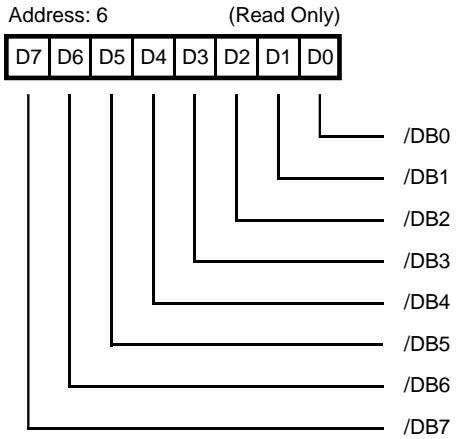

Figure 7. Input Data Register
**Input Data Register.** Address 6 (Read Only). The input Data Register (Figure 7) is a read-only register that is used to read latched data from the SCSI Bus. Data is latched either during a DMA Target receive operation when /ACK goes active or during a DMA Initiator receive when /REQ goes active. The DMA Mode bit (Mode Register bit 1) must be set before data can be latched in the Input Data Register. This register is read under DMA control using /RD and /DACK. Parity is optionally checked when the Input Data Register is loaded.